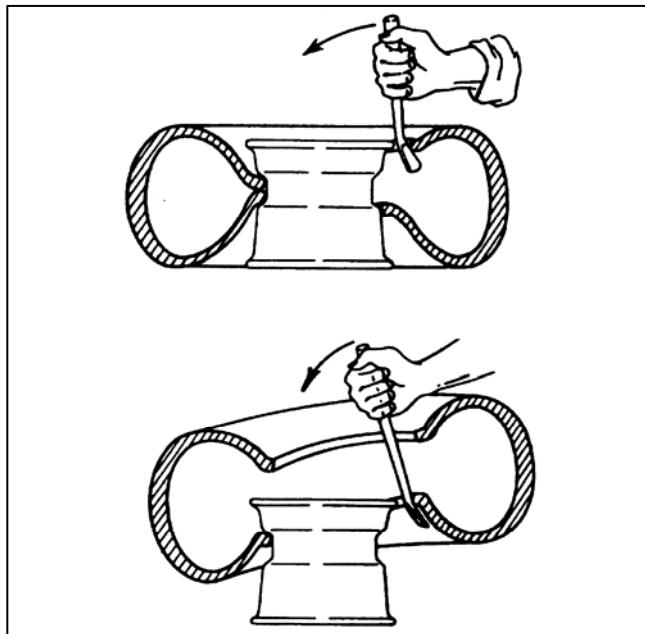

Figure 6-2
- Pry the tire off the wheel flange and push into the wheel well (Figure 6-2).